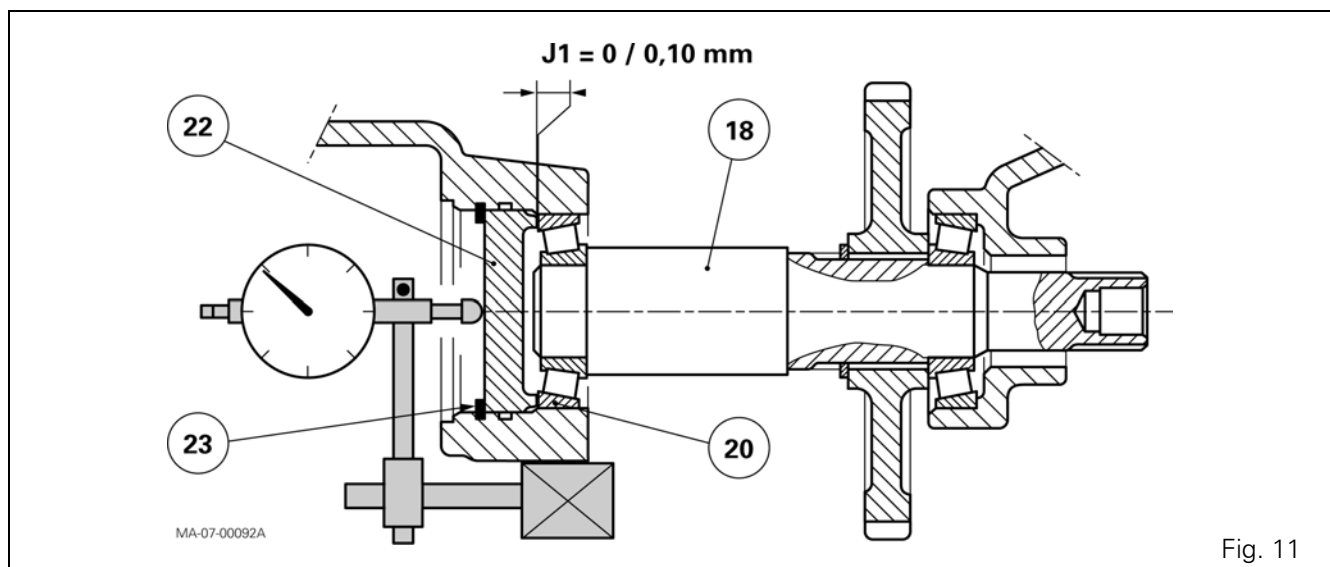

Fig. 11
52. Put a dial gauge feeler pin against the end of spacer (22) (Fig. 11).
53. Through the opening of the cover (12), pull on the shaft, turning it to the left and right alternately to correctly seat the cones in their cups.
57. Take off the circlip (23) and spacer (22). Take out shaft (18) assembled with the cone (19) and circlip (17) while holding the cone (15). Refit the pinion (16), the shaft (18) and cup (20).
58. Apply two dots of grease to shims (21) selected during operation 56 and place them against the cup (20).
59. Fit the spacer (22) and circlip (23).